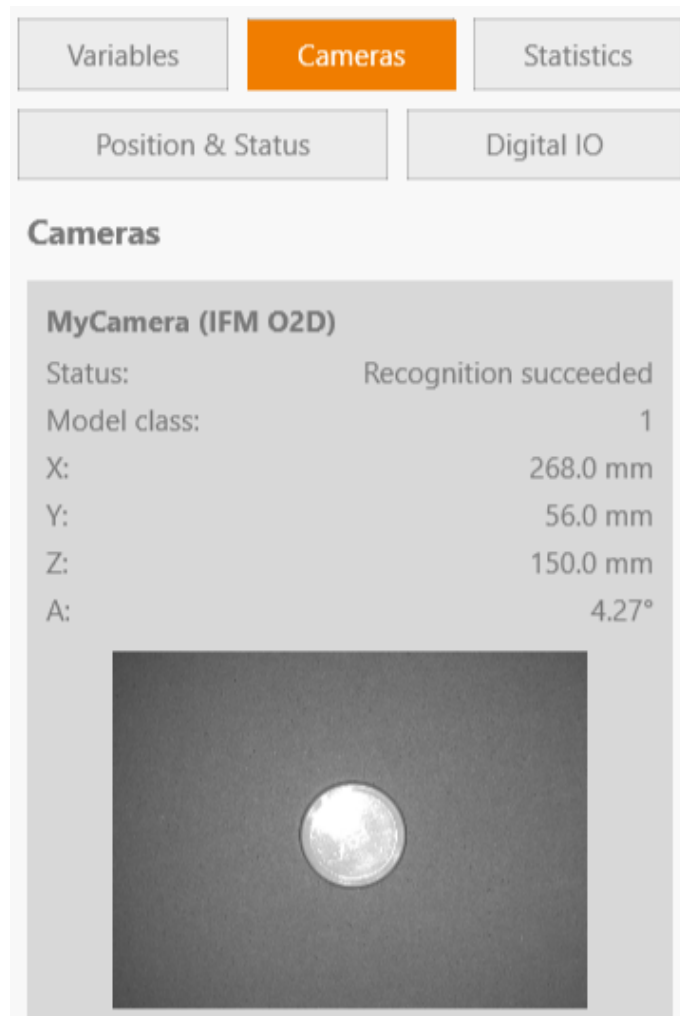

Figure 67: Camera status area
- CRI interface: The image is transmitted via the Ethernet interface to the iRC and can be observed there in the camera status area (see fig. 67).